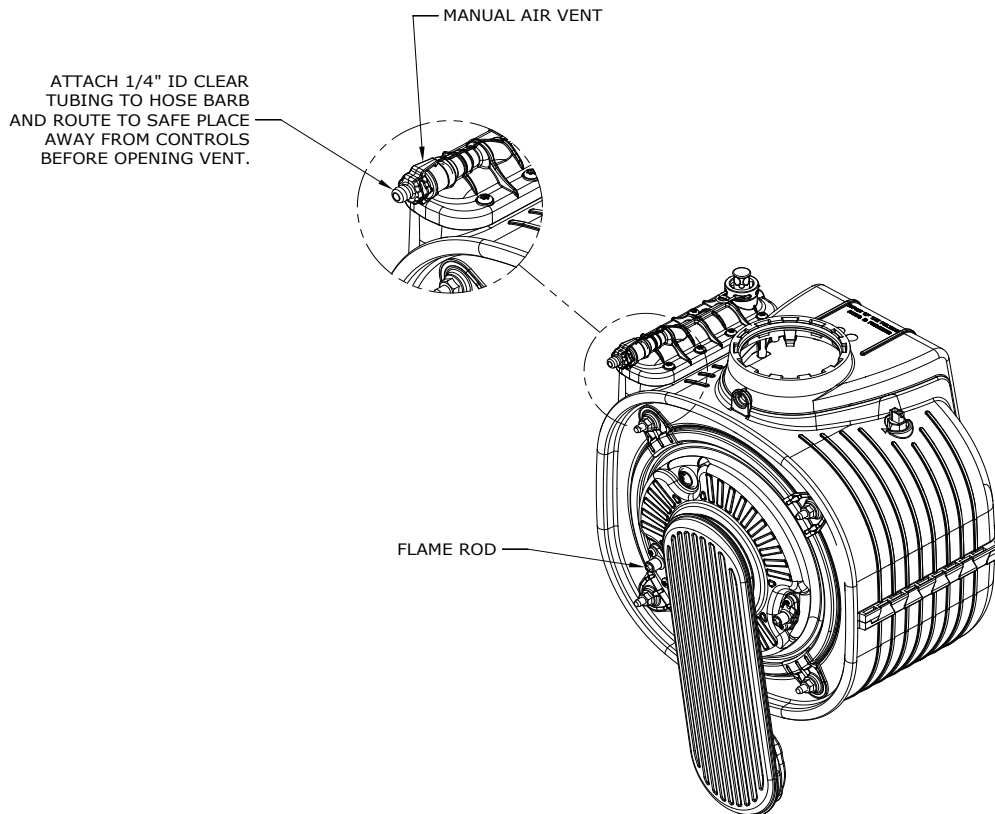

Figure 11.1: Location of Manual Air Vent
- 6) Bleed air from the heat exchanger using the manual air vent in the top left side of the heat exchanger (Figure 11.1). To do this install a piece of 1/4" ID clear tubing over the hose barb and route the tubing to a location where water will not damage controls or nearby construction. Turn vent counter clockwise and allow heat exchanger to vent until a steady stream of water is observed. Close vent and remove hose.
- 17) Perform a check of the ignition safety shut-off device. With the burner firing, carefully unplug the orange flame rod wire at the flame rod using a pair of insulated pliers (Figure 11.1). The burner should shut off immediately.